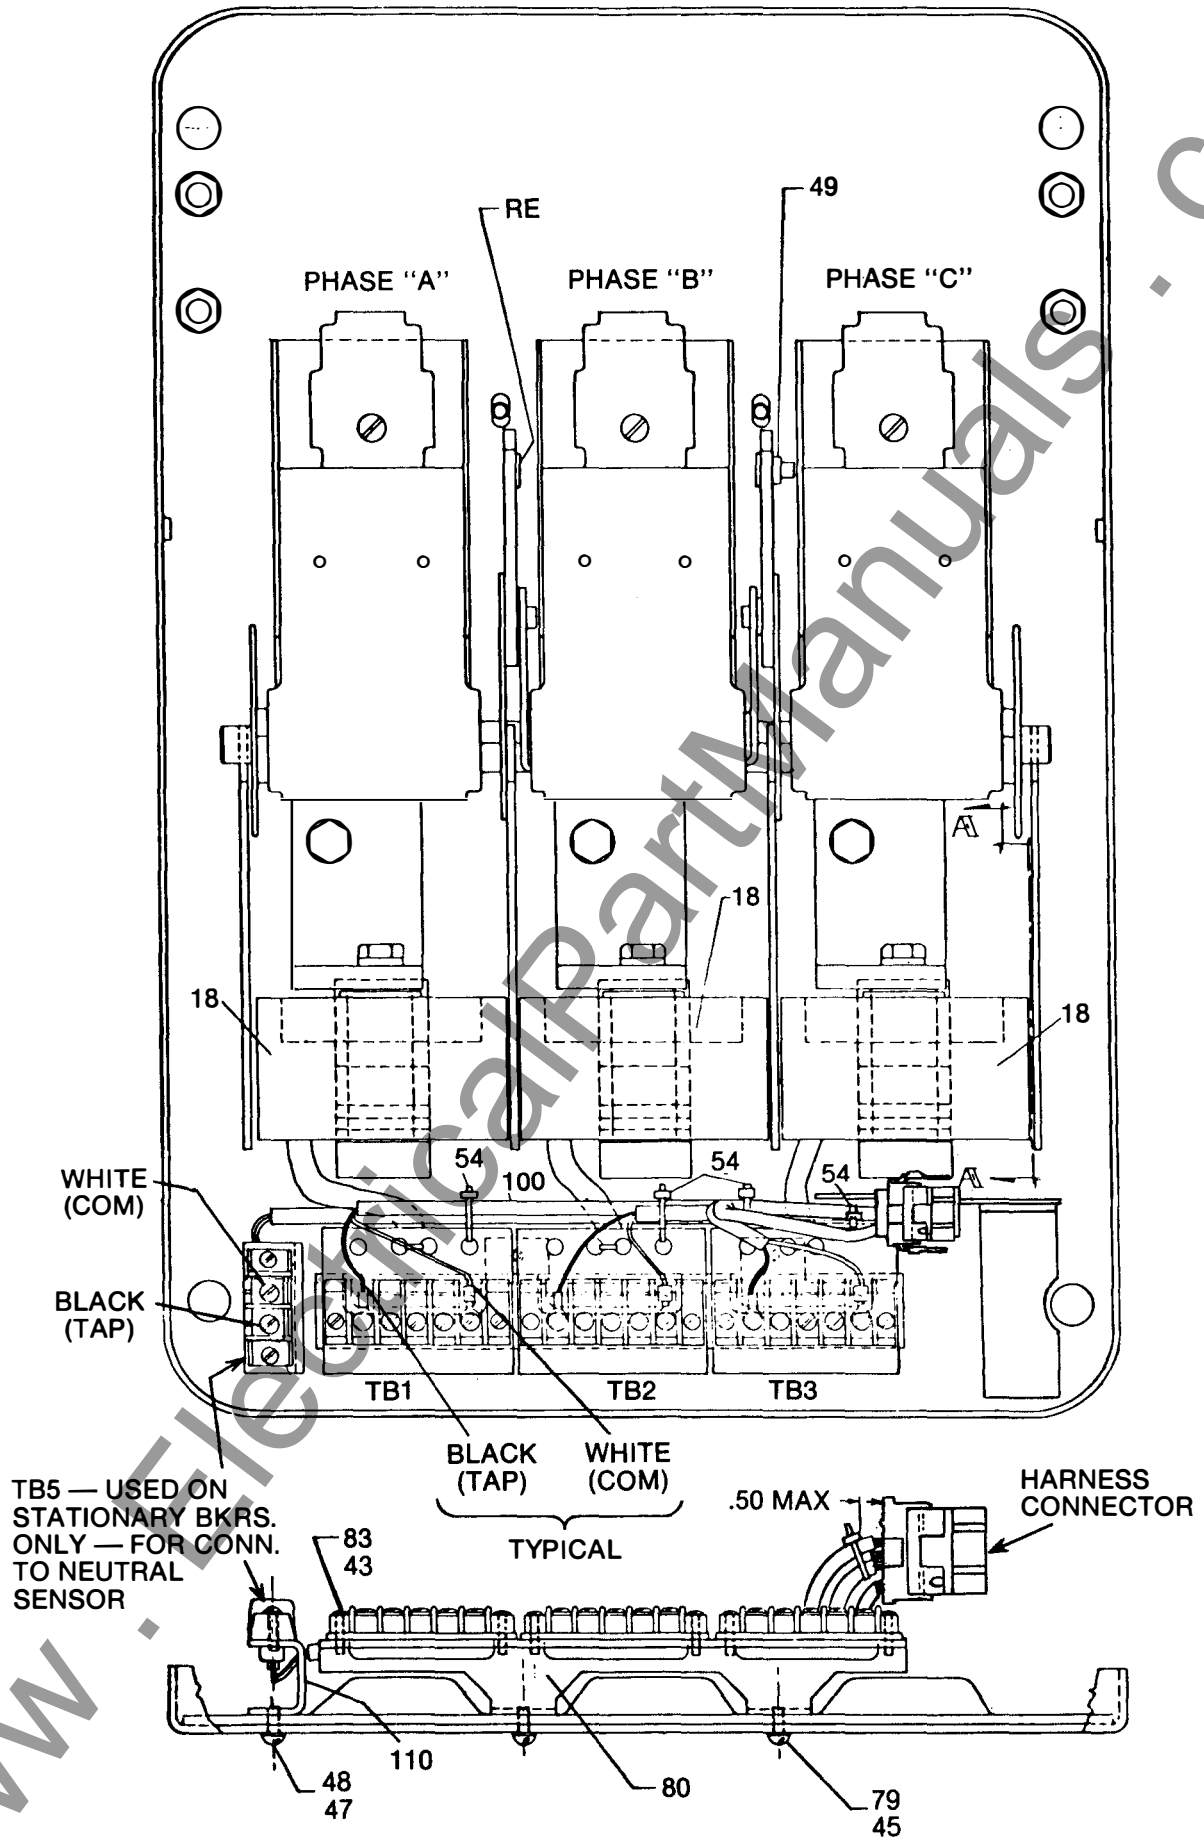

Fig. 5 — Back frame assembly
2. Assemble and mount the three current sensor (CT) assemblies to the back frame. See Figs. 5, 6 and 7. For each pole, first insert lower copper stud 90 through the back plate and attach it via the mounting screw. Then position CT 18 with its terminals toward the rear and loosely mount it to stud 90 with copper parts 91 and 92. Align the assembly and torque the two 3/8" bolts in strap 91 to 25 ft.-lbs. each to assure proper contact integrity.
3. Install CT terminal board-mounting bracket 80 below the CT's using the (2) 8-32 x 1/2" screws provided. See Fig. 5. Mount terminal boards TB1, TB2 and TB3 to the bracket using the (6) 6-32 x 1/2" screws and washers provided.
6. Install wire harness 100 on back frame and connect per instructions on Figs. 9, 12 or 16 as applicable to the particular breaker type involved. For tie-down and forming details, see Fig. 5.